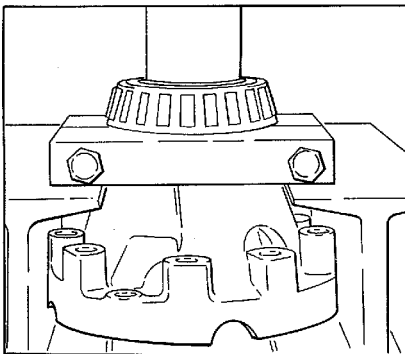

Figure 5.
5. Remove differential bearings with bearing puller if necessary to replace (refer to Fig. 5).